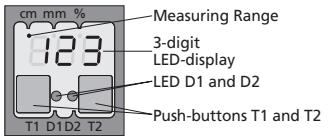

Fig. 3: TouchControl/LED display
- ➔ Set the parameters of the sensor manually via TouchControl (see Fig. 3 and Diagram 1)